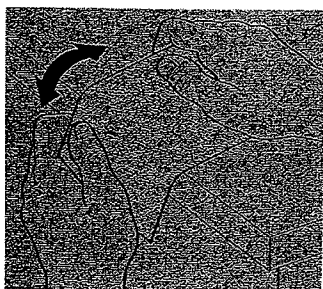

FIG. 1
- Soften the stiff sandpaper by pulling it over the 90° edge of a table or other straight edge, as shown in Figure 1. Concentrate on softening the edges to be clamped.